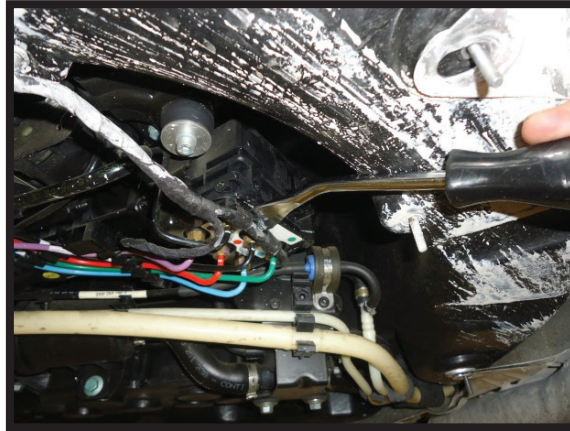

FIGURE 2
4. Remove the wiring harness clips from the compressor assembly. (FIGURE 2)